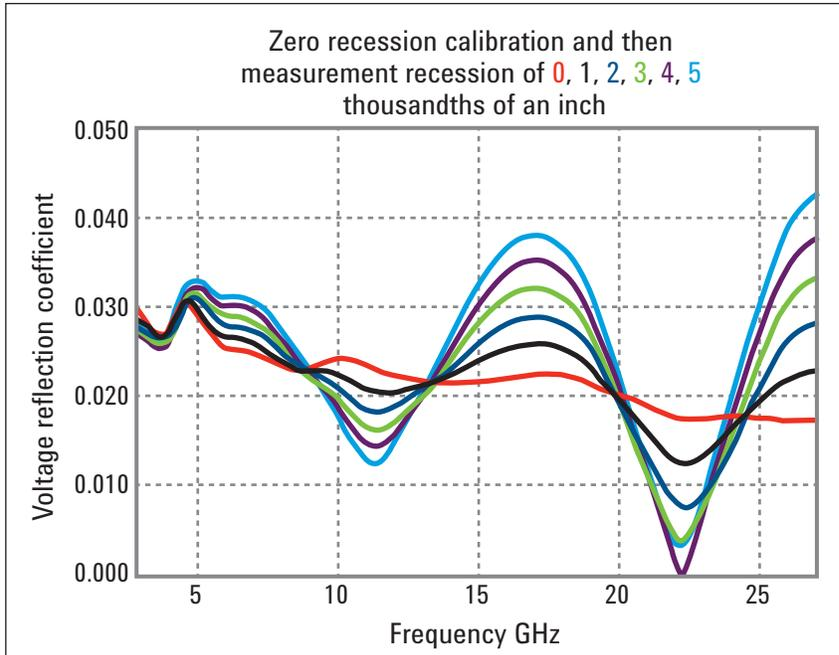
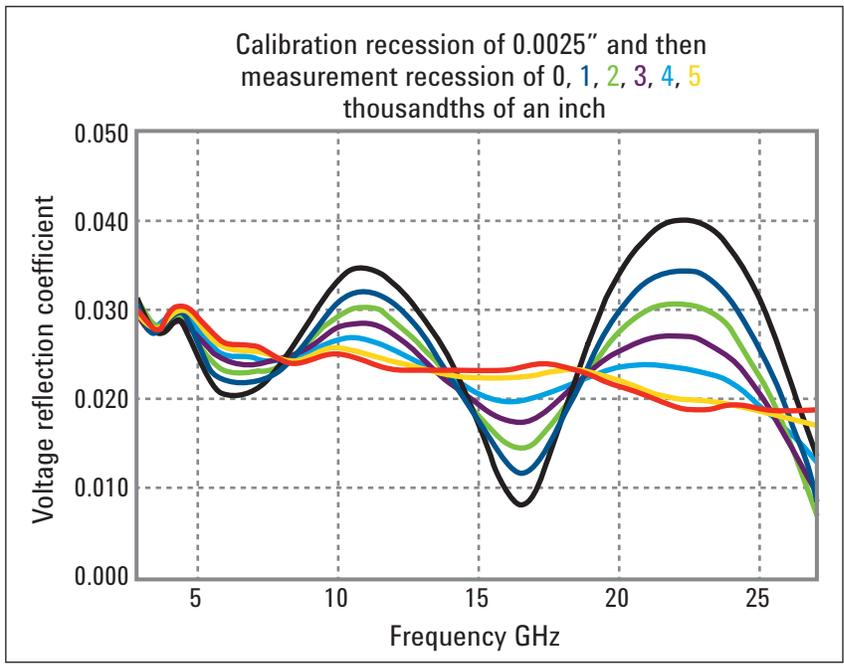
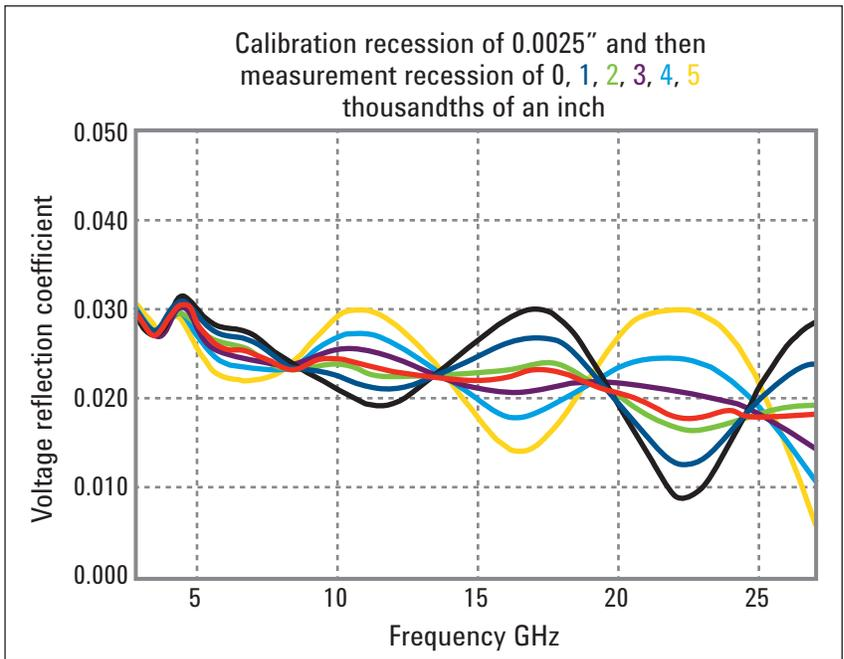

Figure 4.
Figure 5.
Figure 6.
**Figure 4** shows an ideal calibration performed with no recession and the measured load adjusted in 0.001" increments from zero to 0.005". At approximately 22 GHz it is apparent that the predictability of the results changes. As the recession continues to increase, the VRC reaches a minimum and starts to return towards its original value.
**Figure 5** is similar to **Figure 4** but with the errors "reversed". With 0.005" recession during calibration then zero recession during measurement, the effect is similar to that for a connector with protrusion (providing the test port has sufficient recession to avoid damage). However, the peaks occur where the troughs were positioned in the previous chart.
In **Figure 6**, recession during calibration was set midway between the extremes of recession for measurement. This produced a plot that resembles an amplitude-modulated signal and clearly shows the combination of the plots from **Figures 4/5**.